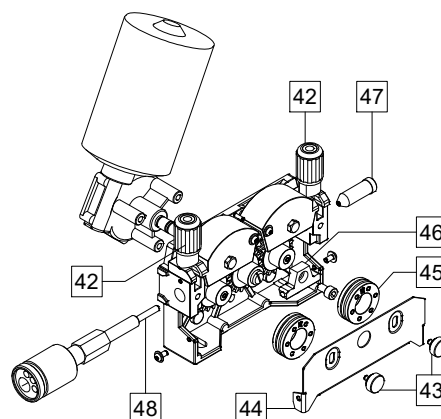

Figure 16.
- Screw down an eye bolt and apply load axially in 45 degree angle in accordance to the Figure 16.